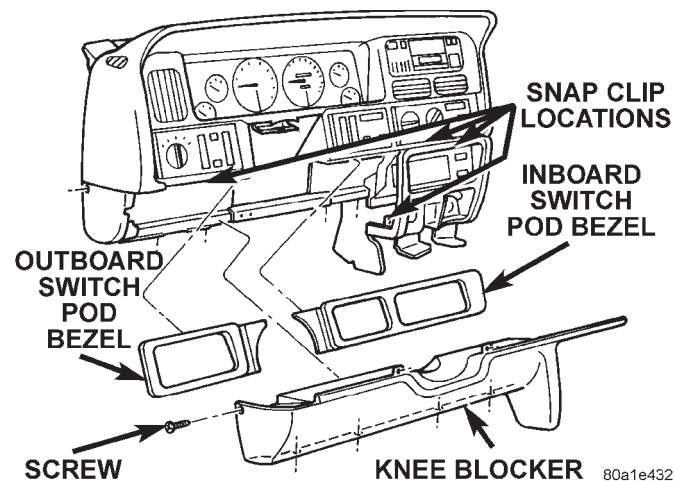

Fig. 5 Steering Column Opening Cover/Knee Blocker Remove/Install
(1) Disconnect and isolate the battery negative cable.
(2) If the vehicle is so equipped, remove the tilt steering column lever.
(3) Using a trim stick or another suitable wide flat-bladed tool, pry gently around the perimeter edges of both instrument panel switch pod bezels to release the snap clip retainers. Remove both bezels from the instrument panel.
(4) Remove the one screw on each side of the steering column that secures the upper edge of the steering column opening cover/knee blocker to the instrument panel (Fig. 5).
instrument panel at the snap clip retainer locations (Fig. 5).